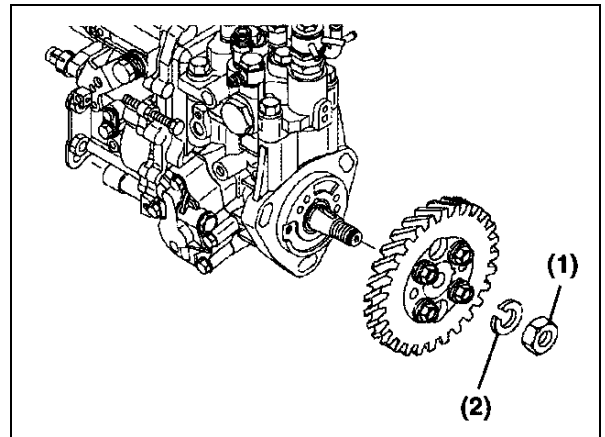

Figure 9
- (21) Once the fuel injection pump drive gear and hub assembly has "popped" loose from the tapered fuel injection pump drive shaft, carefully remove the drive gear nut (Figure 9, (1)) and lock washer (Figure 9, (2)).